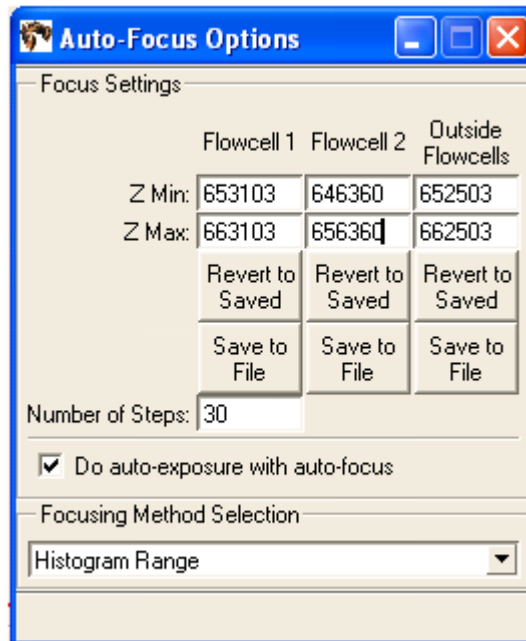

Figure 88 Enter the focus settings.
10. Subtract 5000 counts from the calculated average, then enter that value in the Z Min box. Add 5000 counts to the average, then enter that value into the Z Max box. Confirm that the Number of Steps is 30. Click **Save to File** (see Figure 88).